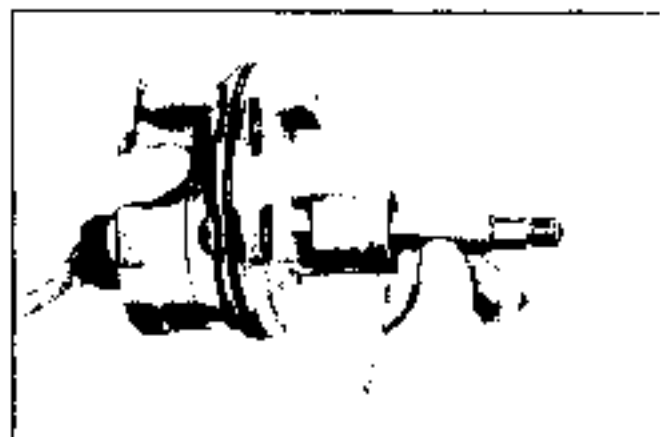

Fig. 9-80 Installing Pump Shaft
1. Insert shaft at hub end of housing, spline end entering mounting face side (Fig. 9-80).